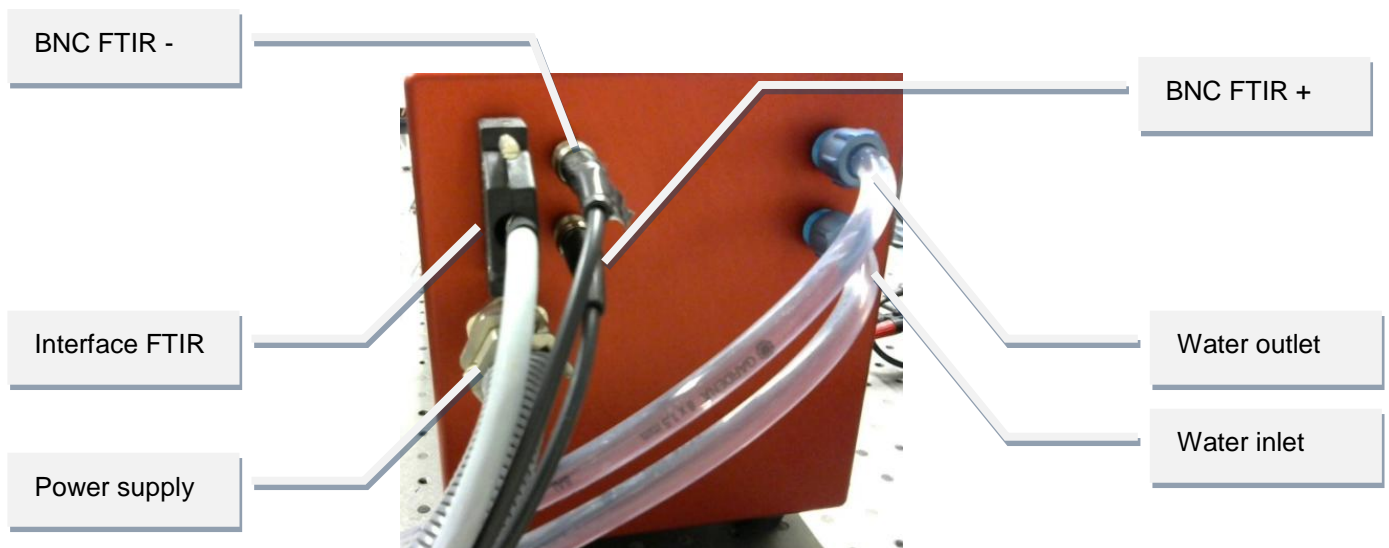

Fig2. Laser head rear view
- ◆ Connect the system components in the way as shown in Fig.2
- ◆ Connect the Laser Head with the Power Supply Unit - see under chapter 2.3, Fig.2, Nr.26.
- ◆ Connect the Laser Head with the Ground- see under chapter 2.3, Fig.2, Nr.15.
- ◆ Connect your Interlock cable to the Interlock connector on the rear wall of the Power Supply (see under chapter 2.3, Fig.2, Nr.25) or short-circuit the connector.